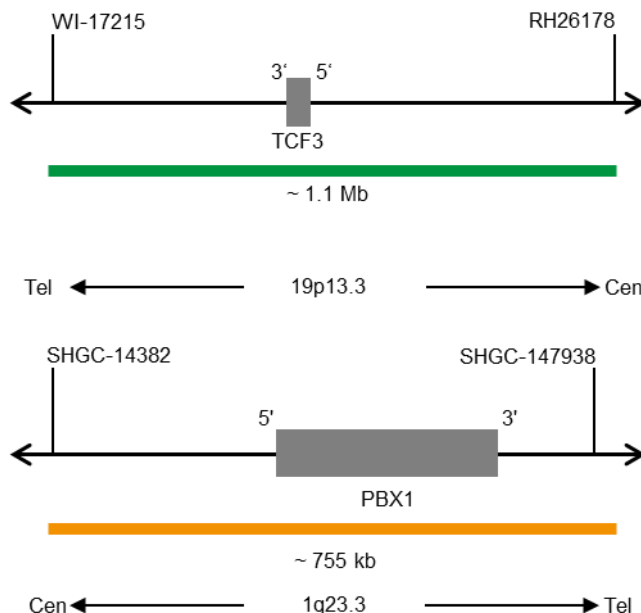

Fig. 1: Top: SPEC TCF3 Probe map; Bottom: SPEC PBX1 Probe map (not to scale)
- ZyGreen (excitation 503 nm/emission 528 nm) labeled polynucleotides (~12.0 ng/ μ l), which target sequences mapping in 19p13.3* (chr19:1,152,432-2,233,487) harboring the TCF3 gene region (see Fig. 1).
- ZyOrange (excitation 547 nm/emission 572 nm) labeled polynucleotides (~6.0 ng/ μ l), which target sequences mapping in 1q23.3* (chr1:164,223,543-164,979,228) harboring the PBX1 gene region (see Fig. 1).